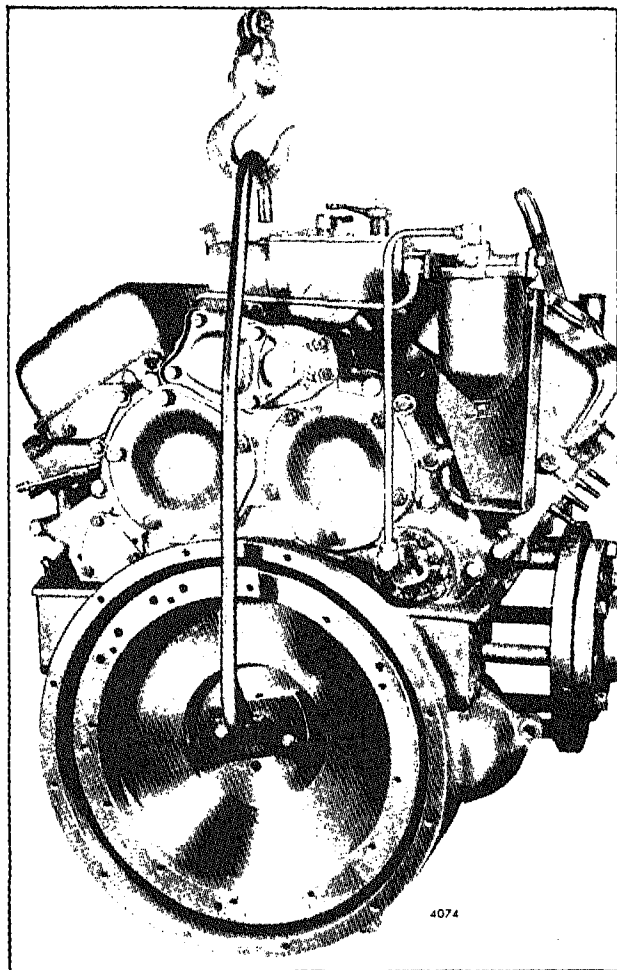

Fig. 1 - Removing Flywheel
- b. Attach flywheel lifting tool J 6361-01 to the flywheel with two 3/8"-16 bolts of suitable length as shown in Fig. 1.